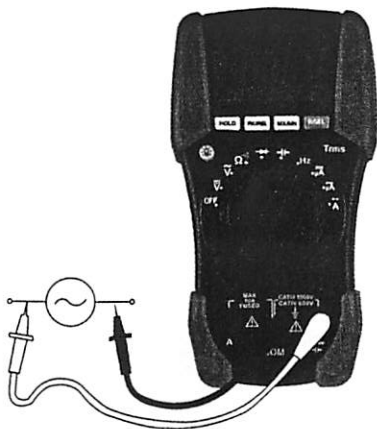

Fig. 9: Operation for Frequency measurement
2. Insert test leads into the jacks, red for $\text{HzV}\Omega\mu\text{A}$ jack and black for **COM** jack (see Fig. 9).